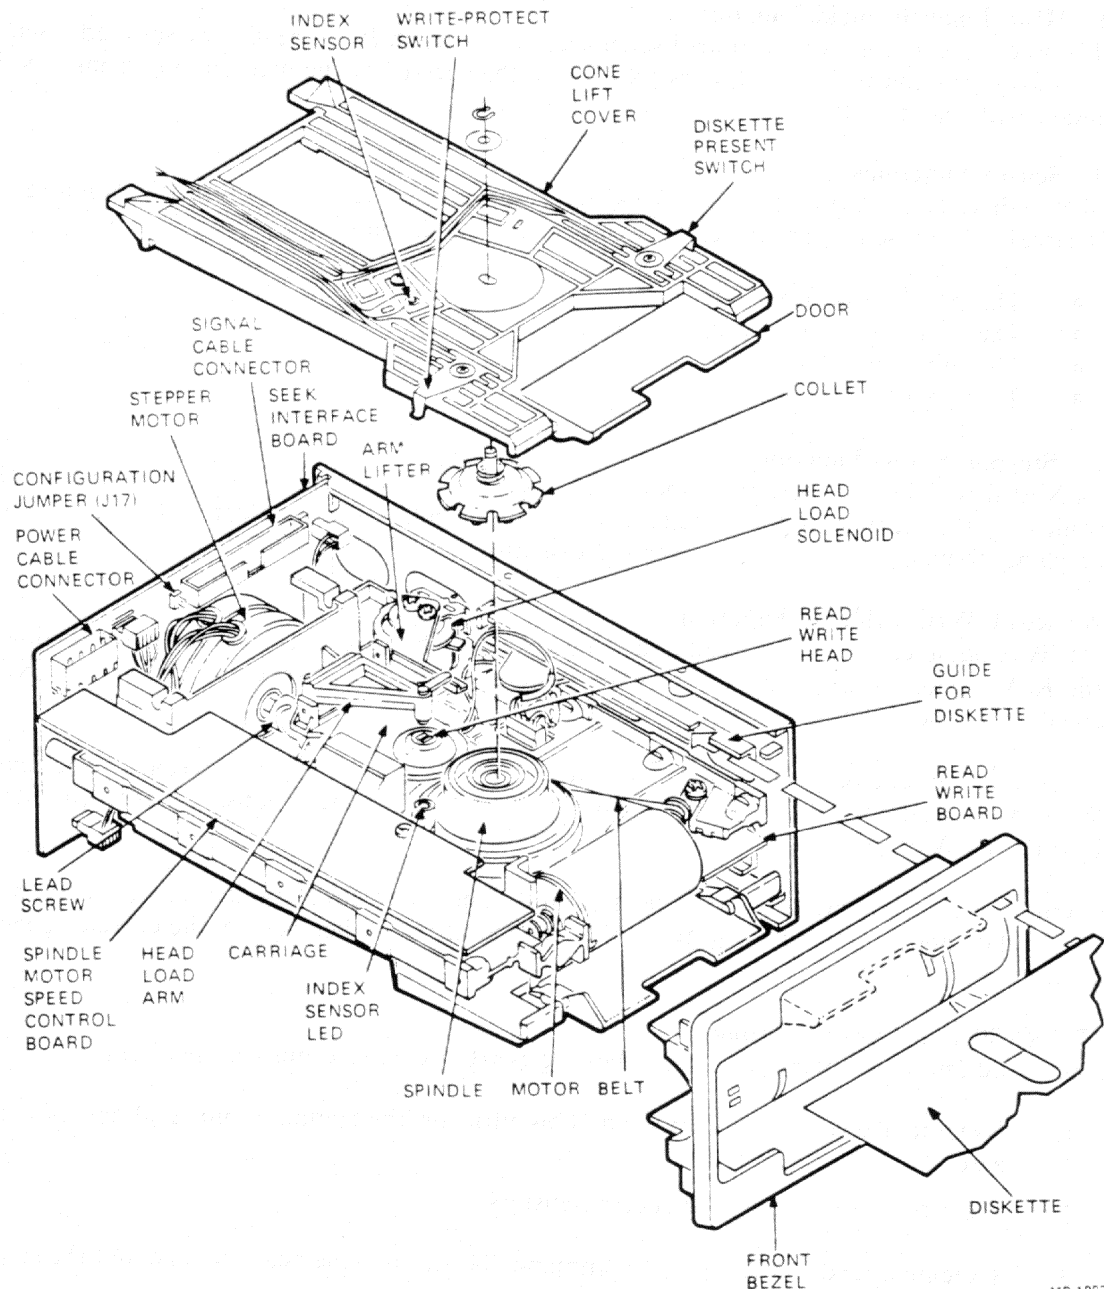
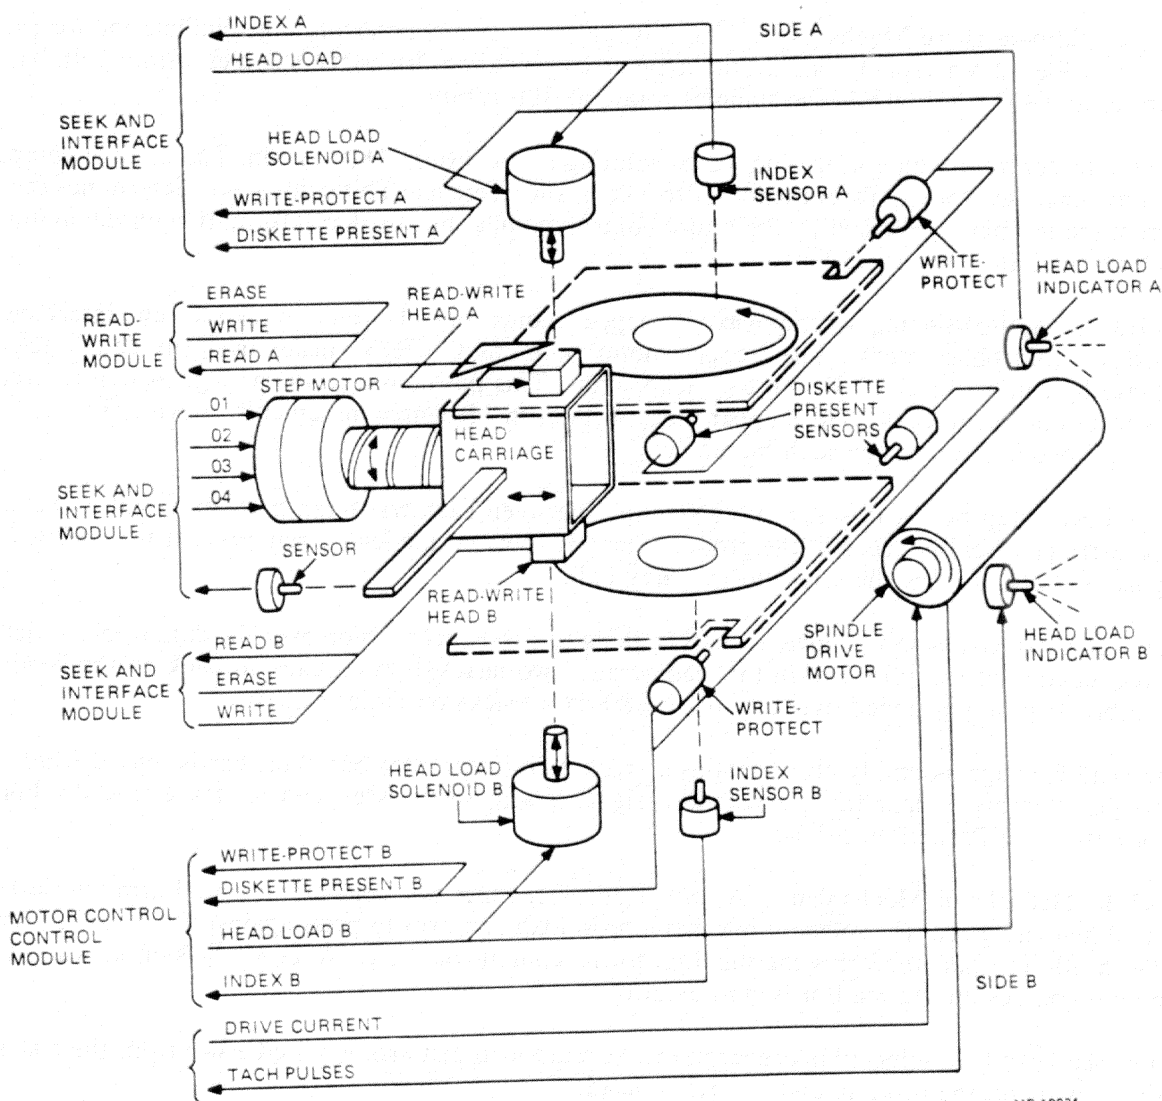

Figure 6-9 Mechanical Detail
Figure 6-10 Drive Mechanism Functional Detail
Figure 6-9 is an exploded view showing the mechanical detail of the drive. Figure 6-10 shows the functional detail of the drive.
6.3.1.5 Sensors – The drive contains switch sensors and photosensitive sensors for passing status information to the seek and interface module. Figure 6-10 shows that there are two sets of sensors for each drive side and one track zero sensor. Each set of sensors provides disk presence, write protection, and index hole location information.